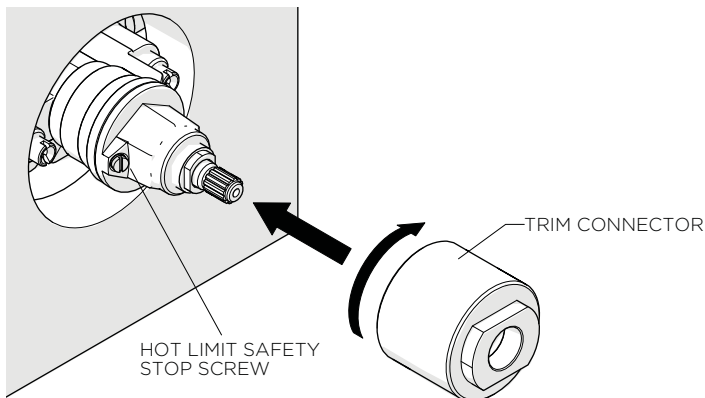

FIGURE 02
- See Figure 02 for Steps 6 - 7.